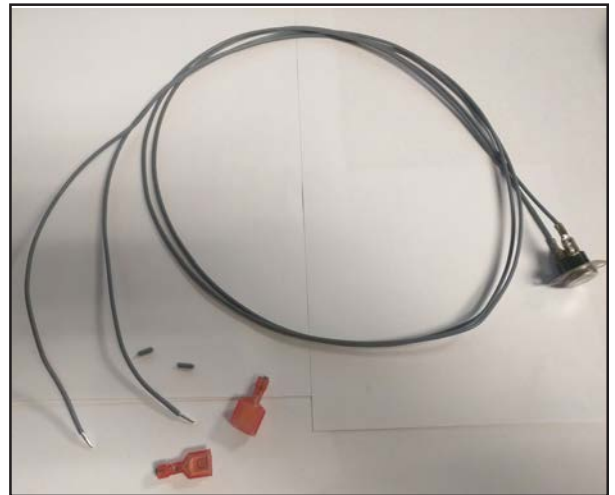

Figure 56: Spill Switch Modification
Step 1: Cut off the connectors from the one end of the wires. Note, the spill switch does not need to be removed from the Draft Hood Adaptor for this modification (Figure 56).